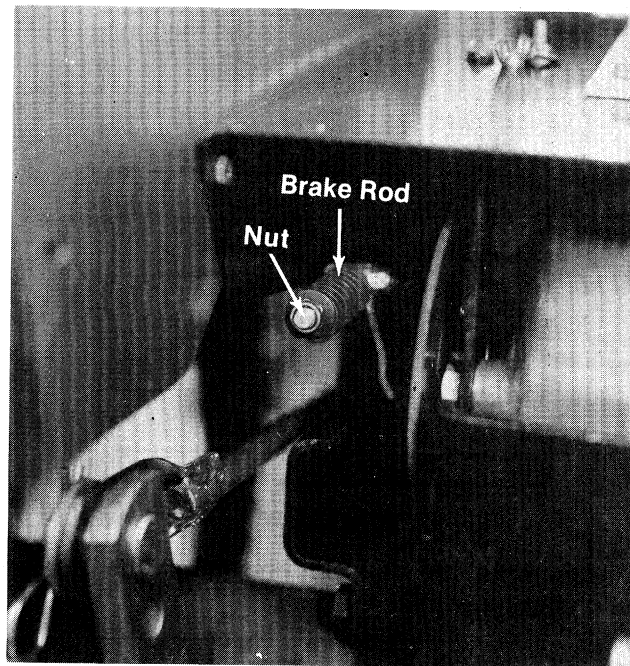

FIGURE 30.
5. Loosen the nut on the end of the brake rod until the brake is loose. You should be able to rotate the rear wheels freely. (See figure 30.)